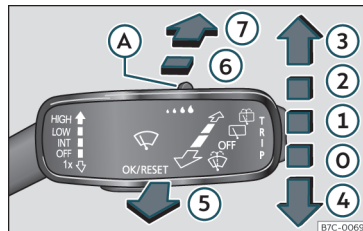

Fig. 40 Operating the windscreen wiper and rear wiper.
- ① **INT** Windscreen wipers interval wipe. Using the control >>> Fig. 40 (A) adjust the interval (vehicles without rain sensor), or the sensitivity of the rain sensor.
- ② **LOW** Slow wipe.
- ③ **HIGH** Continuous wipe.
- ④ **1x** Short wipe. Brief press, short clean. Hold the lever down for more time to increase the wipe frequency.
- ⑤ Automatic wipe. The windscreen washer function is activated by pushing the lever forwards, and simultaneously the windscreen wipers start.
- ⑥ Interval wipe for rear window. The wiper will wipe the window approximately every six seconds.
- ⑦ The rear window wash function is activated by pressing the lever, and the rear wiper starts simultaneously.